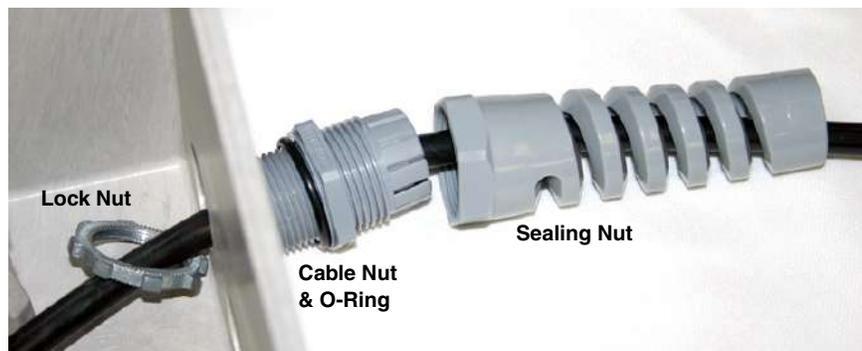

Figure 5-1 AC Line cord with a cord-grip fitting
5. *If installing a cord-grip fitting (refer to Figure 5-1):*